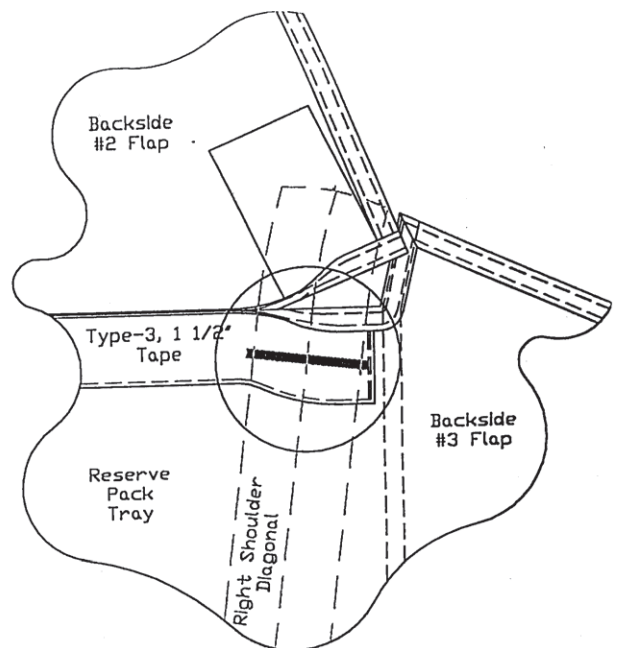

Fig. 1
Service Bulletin: Inspect the area shown in Figure 1 on both the right (as shown) and left sides. They can be found just under the reserve risers as they enter the reserve pack tray. Figure 2 shows a possible manner in which the zig-zag pattern could be degraded; however, any stitch degradation necessitates the need for immediate reinforcement. To reinforce, place a double pass, zig-zag stitch passing through the entire width of the Type-8 diagonal both above and below the old stitch pattern as shown in Figure 3. Use a Type 304, single throw machine with Nylon E (69) - Thread. The zig-zag should be set for a 3/16" wide pattern with 12-14 stitches per inch. The stitches should be confined within the Type-3 tape. Sew completely through the backpad. Perform the double pass zig-zag as follows. At the end of the first stitch pass, lift the needle and foot of the sewing machine and position the work so that the needle is at the beginning of the first stitch pass. Sew the second stitch pass directly over the first stitch pass. Optionally, a single pass with a Type 308, double-throw zig-zag could be used with standard stitch locking procedures in place of the double pass Type 304 stitch. Trim any loose threads on the old stitch pattern and repeat for the other side.